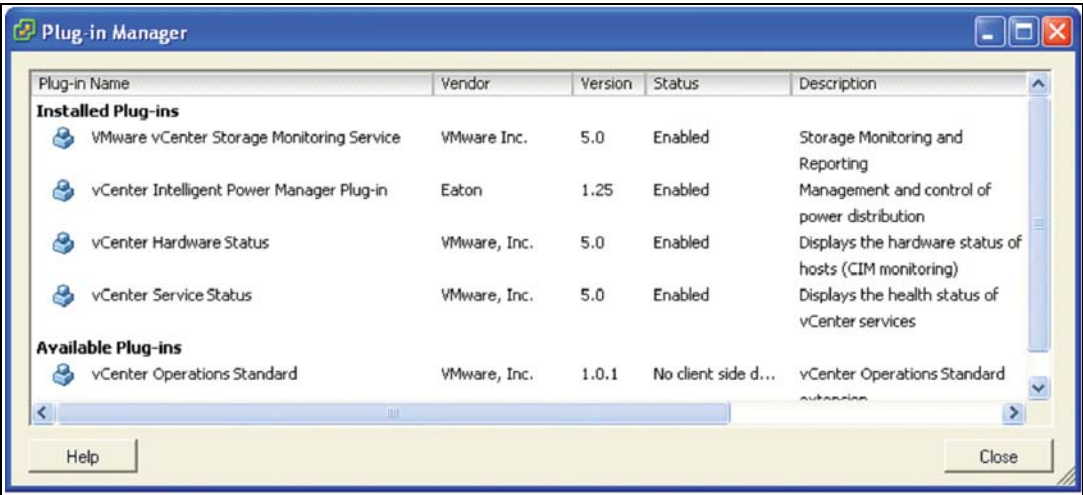

Figure 196. vCenter Plug-in Manager
2. Locate the Eaton IPM Plug-in for vCenter in the Plug-in Manager (see Figure 196).